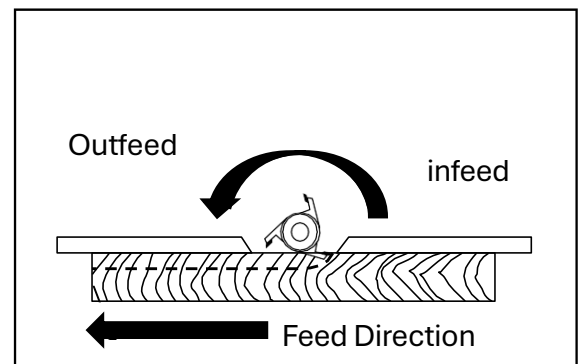

Figure 18: Proper Grain Direction.
- For proper grain direction: Feed the stock so the grain lines on the **edge of the workpiece angle down and toward you**, as shown in figure 18 above.